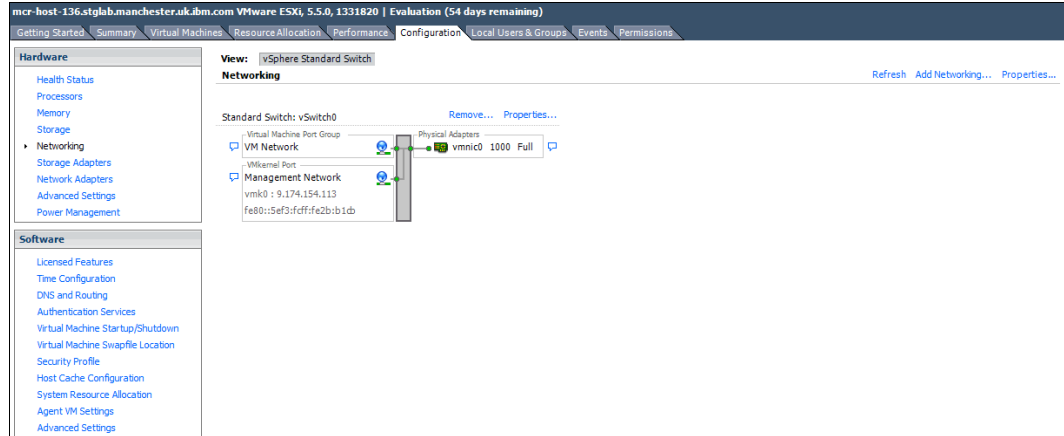

Figure 4-17 The network Configuration tab in VMware vSphere Client
1. Browse to the **Configuration** tab and select **Networking**, as shown in Figure 4-17.